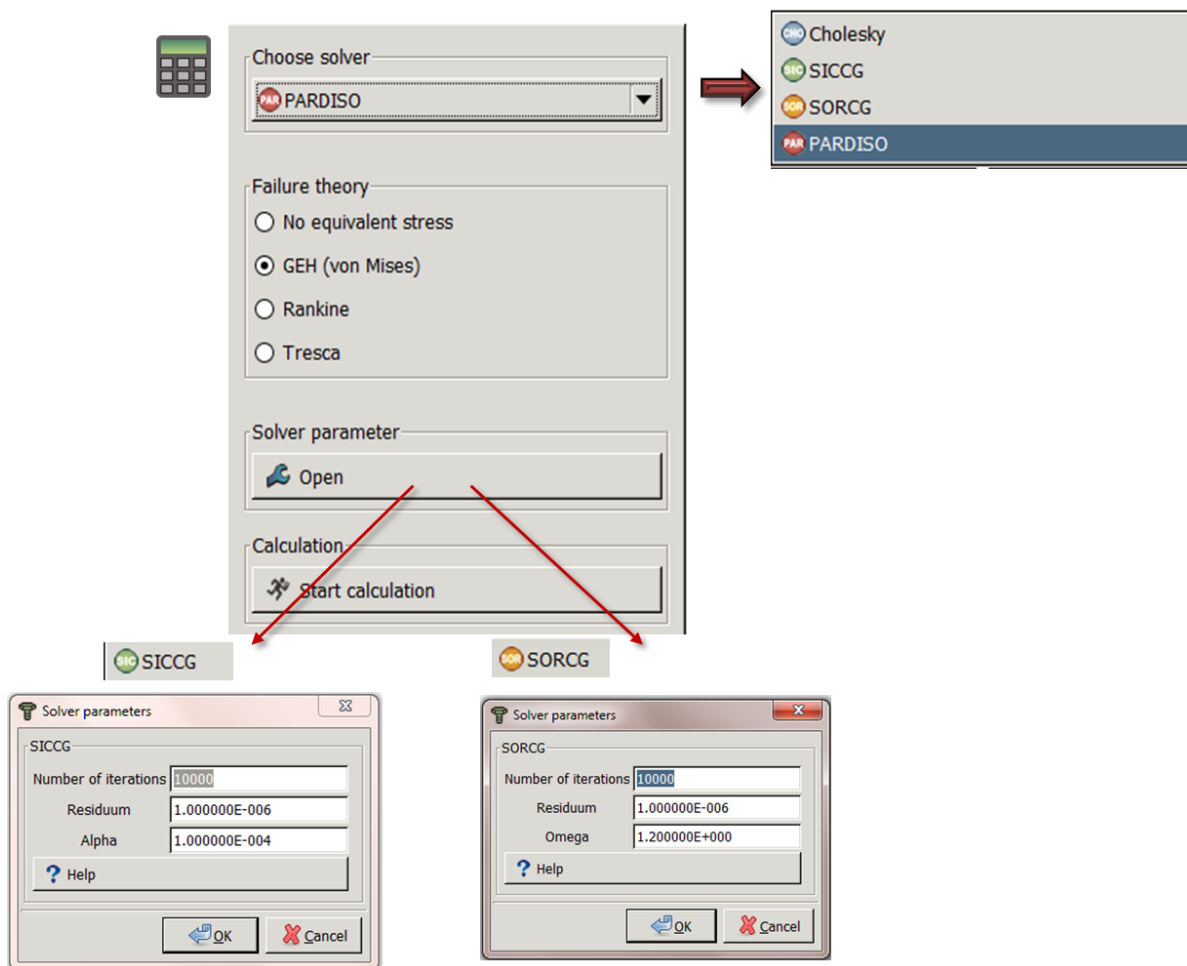

Figure 40: Choose the appropriate equation solver
The user can enter the temperature either in Kelvin (K) or in ° Celsius (°C). This makes no difference for the calculation results. The heat flux density is a surface-related load, i.e. she defines the heat flux per surface (unit: W/mm²). The heat flux (unit: W) as a nodal load can be applied either *uniformly distributed* or *distributed*. *Uniformly distributed* means here that the same entered value is assigned to every node. *Distributed* applies the loads according to FE rules. If one wants to carry out a thermo-mechanical simulation, one must define only new sets with additional mechanical boundary conditions (e.g., of a constraint). Then the Solver automatically recognises that the user would like to carry out such a simulation. As a calculation core can be selected between three equations solvers: PARDISO (directly and multi-core-running), SICCG and SORCG (iterative) (figure 40). The Cholesky-Solver cannot be chosen here.